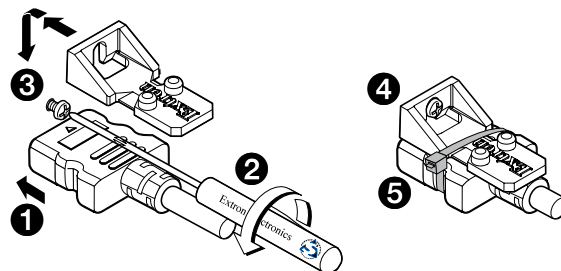

Figure 3. Installing the LockIt Lacing Bracket
1. Plug the HDMI cable into the panel connection (see figure 3, **1**).
- Place the LockIt Lacing Bracket on the screw and against the HDMI connector, then tighten the screw to secure the bracket (see figure 3, ③).